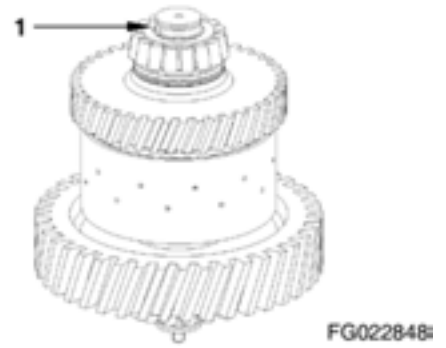

Figure 171
1. Snap out piston ring (1, Figure 171).